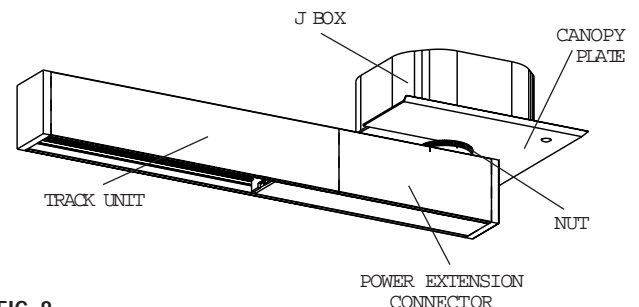

FIG. 8
11. **WHEN USING THE STANDOFF CANOPY 26061WH/BK** Slide the CANOPY PLATE between the CROSS BAR and NUT on the PLATE ASSEMBLY. Rotate the NUT to secure the CANOPY PLATE against the ceiling. (Fig. 8)
17. **WHEN USING THE STANDOFF CANOPY 26061WH/BK.** Slide the CANOPY PLATE between the CROSS BAR and NUT on the PLATE ASSEMBLY. Rotate the NUT to secure the CANOPY PLATE against the ceiling. (Fig. 8)